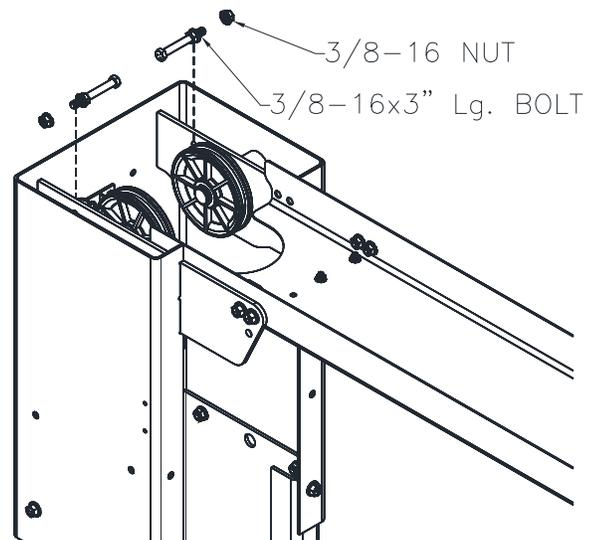

Fig. 10 – Column Ext. Cable Trapping
- 24) At the top of each column extension assemble a 3/8-16 x 3" lg bolt with (2) 3/8-16 flange nut at each sheave location, Fig. 10.